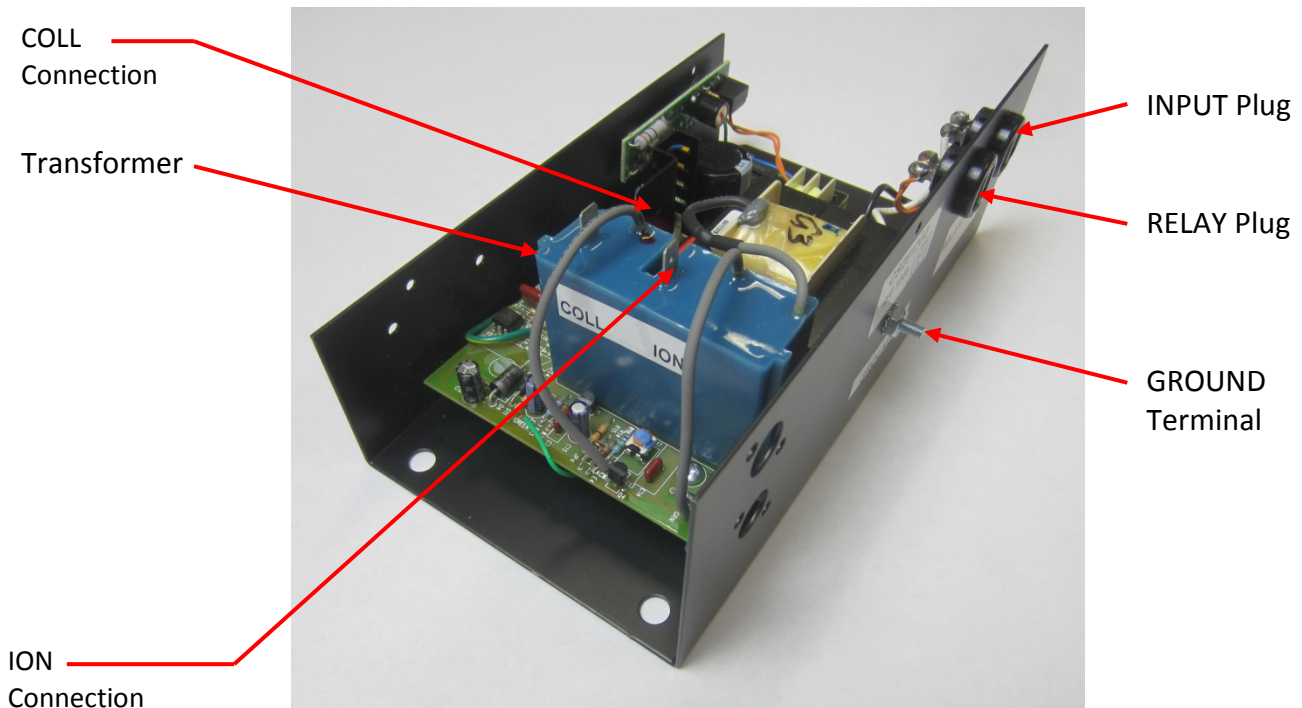

Figure 6-55-1
1. Pull the two wires off the transformer terminals marked COLL and ION (Refer to Figure 6-55-1).